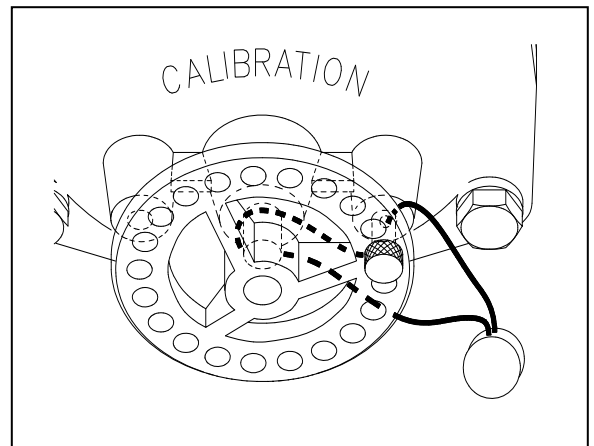

Figure 6
7. Reseal the meter adjustment. See Figure 6.